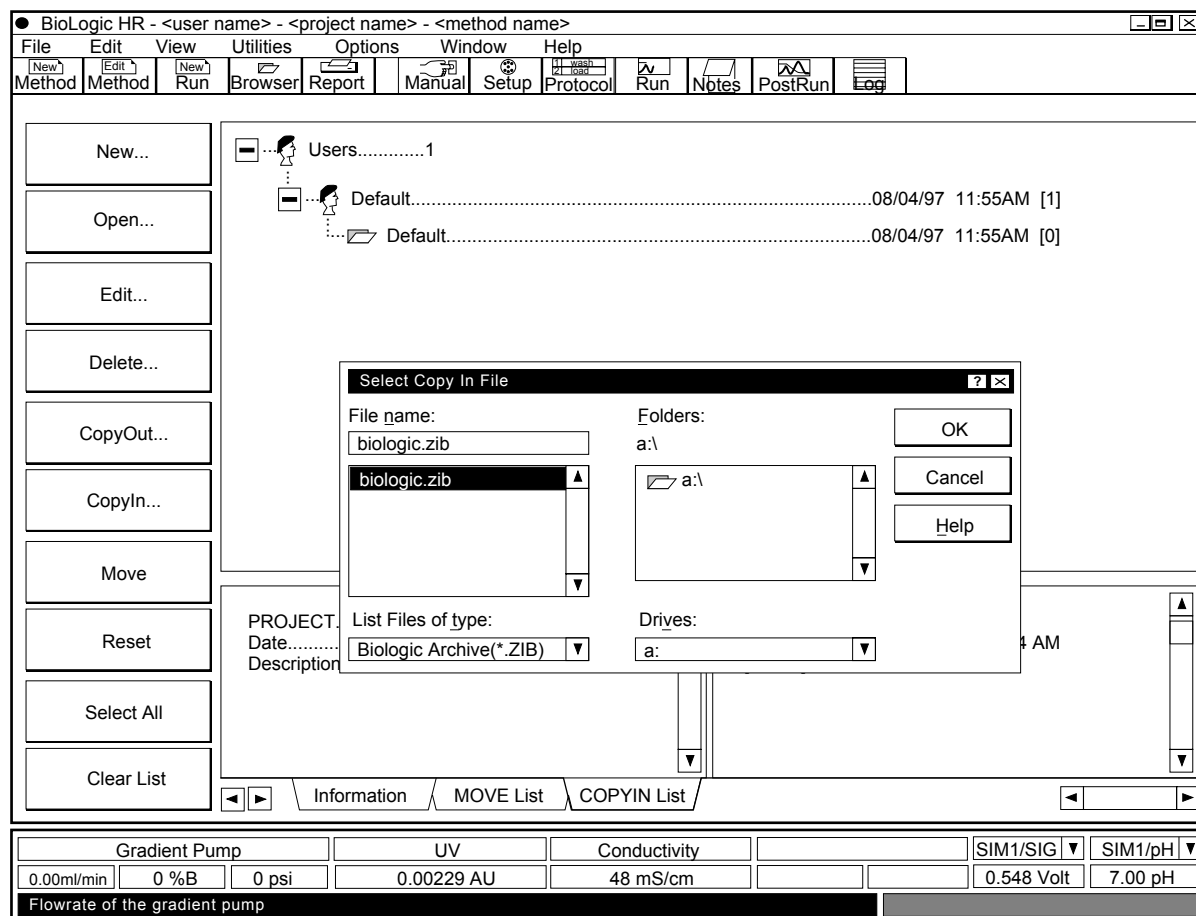

Figure 31. The Copy In Window
- Press the **CopyIn...** button and select the .ZIB file you wish to CopyIn. (See Figure 31.)